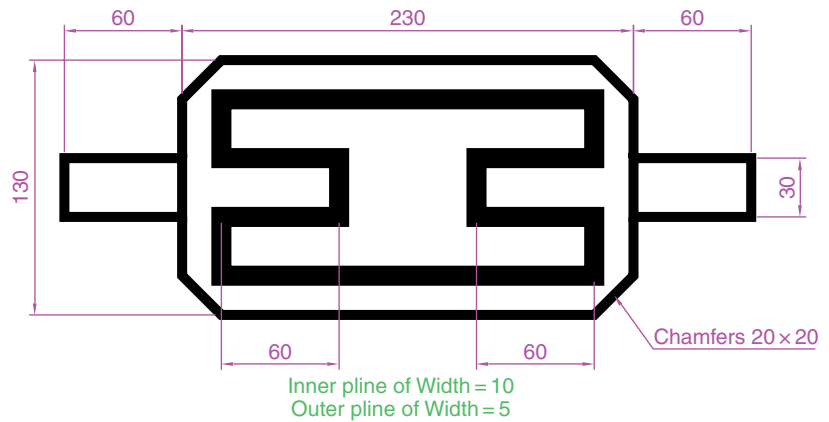

Fig. 3.42 Exercise 11
11. Construct the two outlines in Fig. 3.42 using the **Rectangle** and **Line** tools and then with **Edit Polyline** change the parts of the drawing to plines of widths as shown in Fig. 3.42.